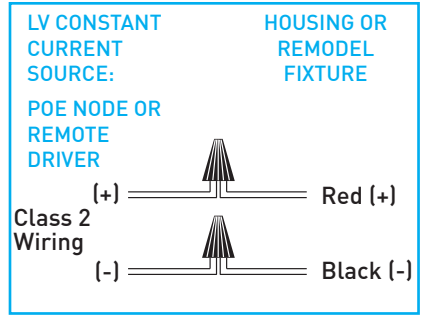

Fig.20
Splice compartment / power supply assembly provides two (2) wires for connection to low voltage: Red (+) and Black (-)(Fig. 20).